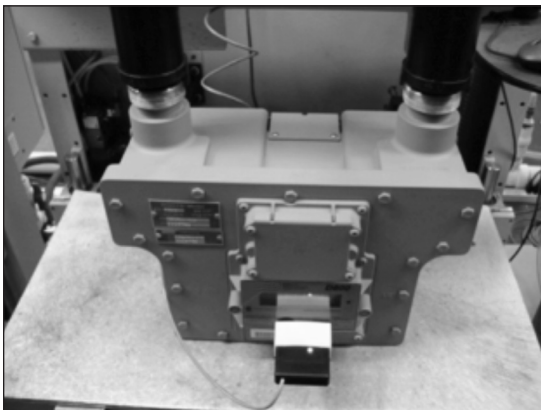

Figure 10.11 - IrDA Proving cable installed on meter
2. Install the “optic” IrDA test cable to the meter and the prover as shown in Figure 10.11. The black box should slide into the adapter for the IrDA slot on the bottom of the electronic index for the meter.